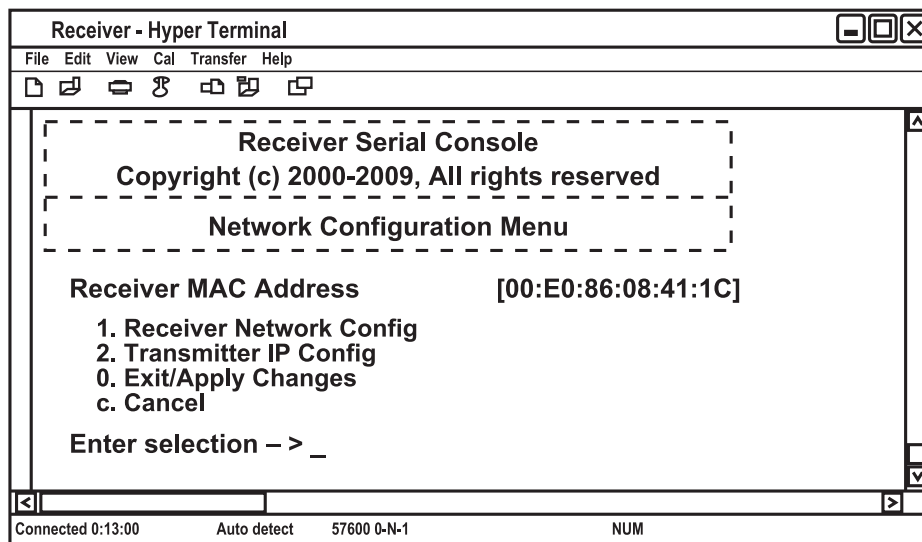

Figure 4-20. Network Configuration Menu.
3. Press "1" to select Network Configuration and press "Enter." The Network Configuration Menu (see Figure 4-20) will appear.